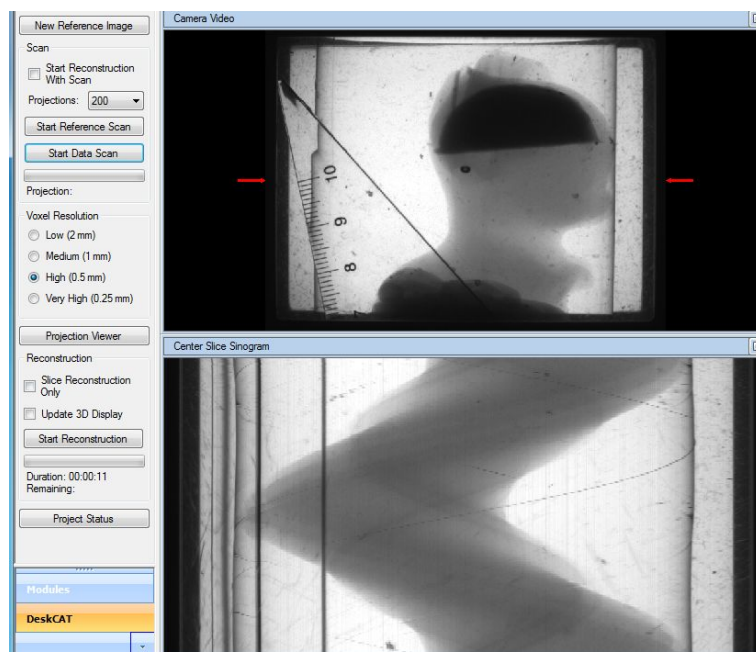

Figure 8: Shows a ruler placed inside the aquarium and the resultant center slice sinogram.
25. Optional – place an object such as a clear plastic ruler into the aquarium so that it can be seen next to the Mouse phantom. This object must be tall enough to intersect the central line in the projection image (Figure 8). Please note that this object will not rotate during the scan. Repeat the data scan, observe the sinogram and save a screen shot for your lab report. Identify the non-rotating object in the resulting sinogram. Remove the non-rotating object and repeat the data scan before continuing.